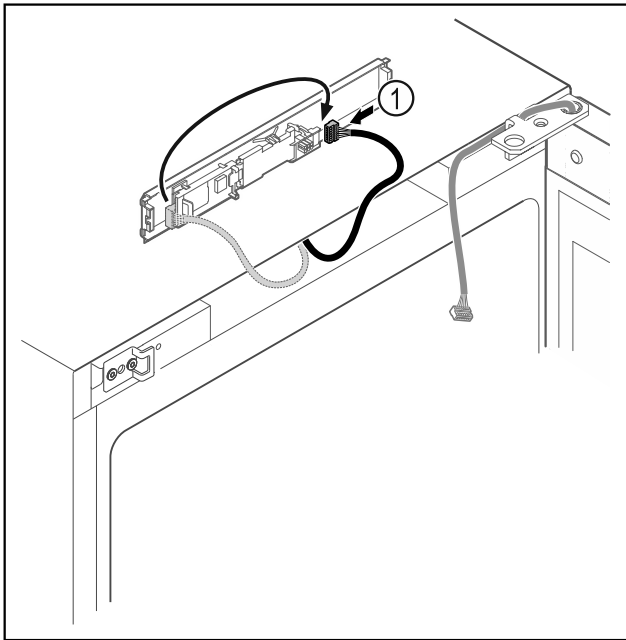

Fig. 11
- Connect the plug Fig. 11 (1) to the circuit board.